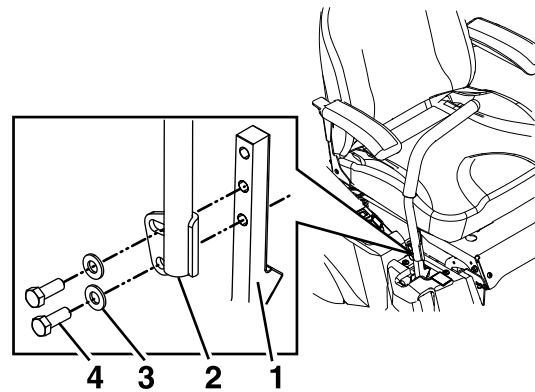

Figure 22
1. Remove the hardware holding the control lever to the control arm shaft (Figure 22).
2. Loosen the lower bolt just enough to pivot the control lever fore or aft (Figure 22). Tighten both bolts to secure the control in the new position.